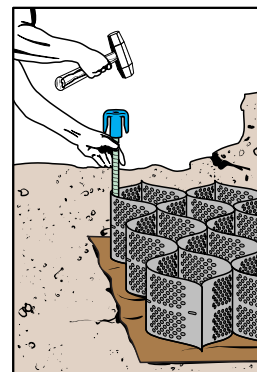

Figure 4 Stake Anchorage
- **Option 3:** Expand the Geoweb® section into position and anchor with stakes. See Figure 4.